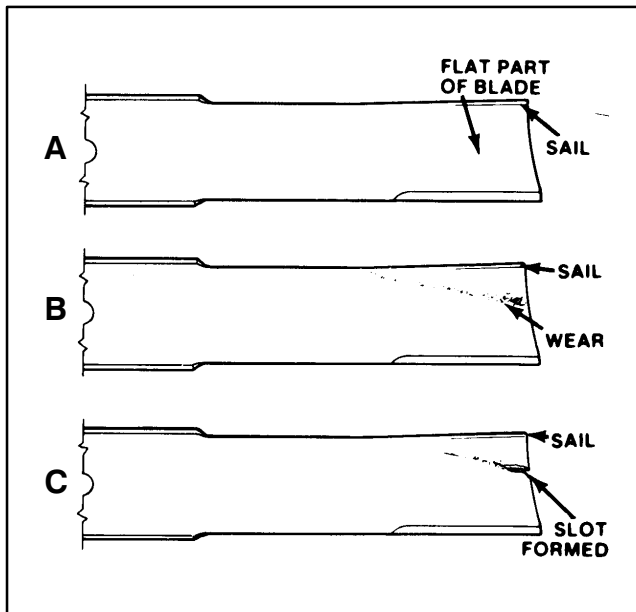

Figure 31
CHECKING SAIL AND SHARPENING CUTTER BLADE (Fig. 31–32)
2. Examine cutting ends of the blade carefully, especially where the flat and curved parts of the blade meet (Fig. 31–A). Since sand and abrasive material can wear away the metal that connects the flat and curved parts of the blade, check the blade before using the mower. If wear is noticed (Fig. 31–B), replace the blade.